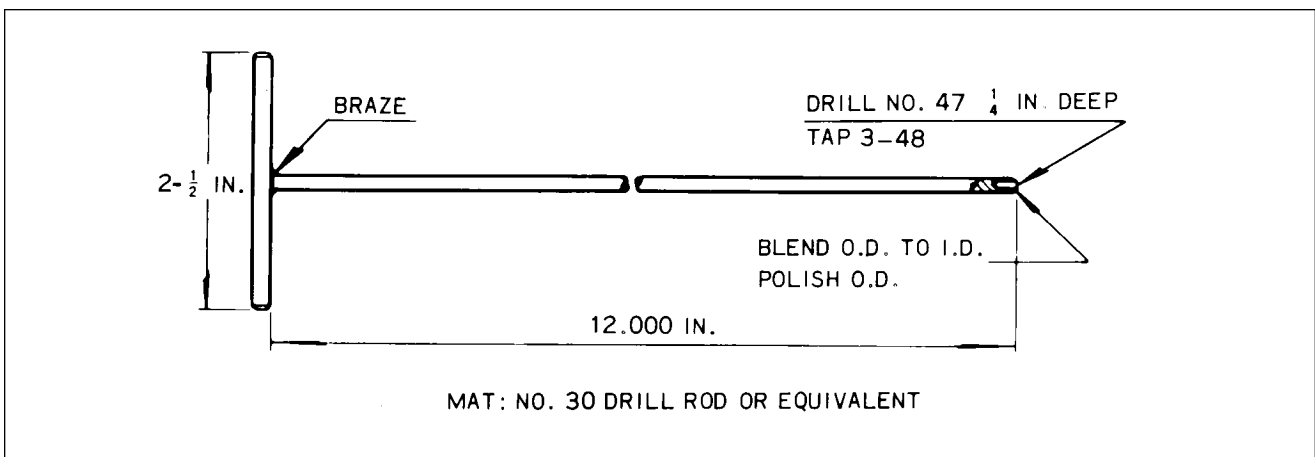

Figure 74-12. Assembly Tool
- (1) Fabricate a tool as shown in Figure 74-12 for installing the insulating sleeves over the cable terminals.